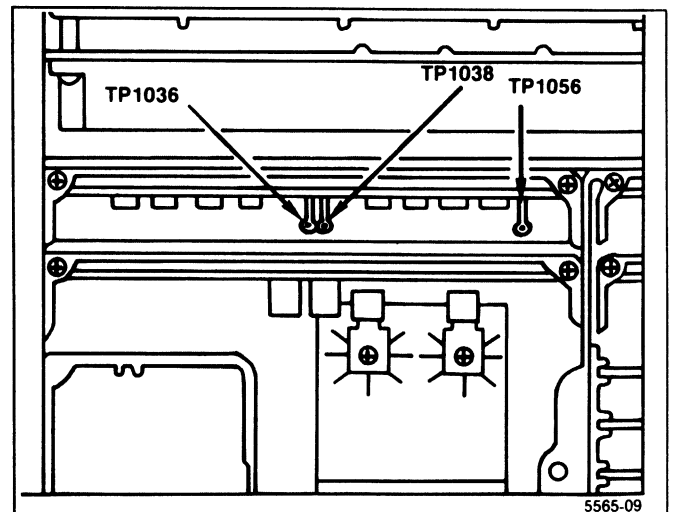

Figure 5-5. Test points on the CRT Readout board.
i. Disconnect the voltmeter, set TIME/DIV to AUTO, change the test oscilloscope to Ext Trigger, and apply the Readout Off signal at TP1038 on the Crt Readout board (Figure 5-5) to the test oscilloscope Ext Trigger input. Set the test oscilloscope Time/Div to  $2 \mu$ .